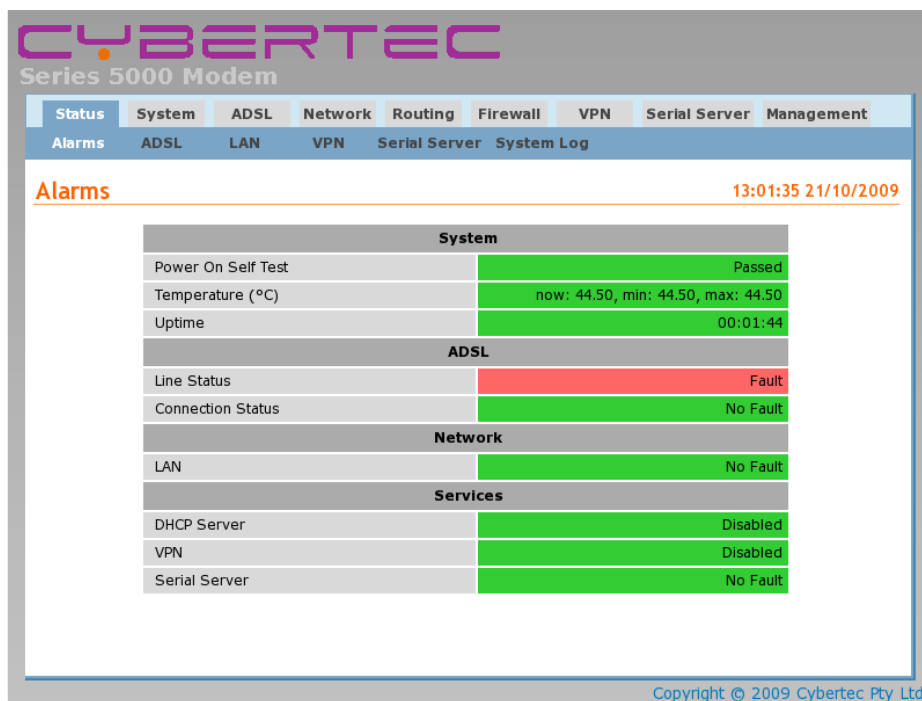

Figure 14: Status summary
- The Status summary page will be displayed, it will be similar to Figure 14.